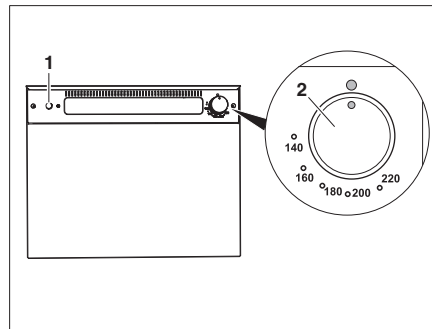

Fig. 312 Gas oven (Thetford)
- Gently press the control knob (Fig. 312,2) and turn left to any position.
- Press the ignition switch (Fig. 312,1) repeatedly until there is a flame.
- Turn the control knob (Fig. 312,2) to "O". The flame fades.